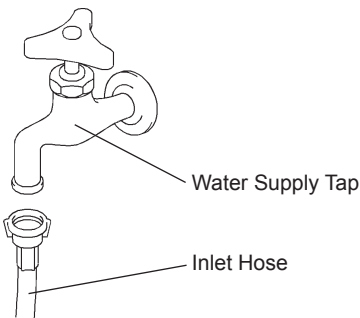

Fig. 4
1) Attach the free end of inlet hose to the stop valve (Fig. 4), noting washer is correctly positioned. Hand tighten sufficiently to provide leak free joint. It is a wise precaution to have the stop valve within easy reach.